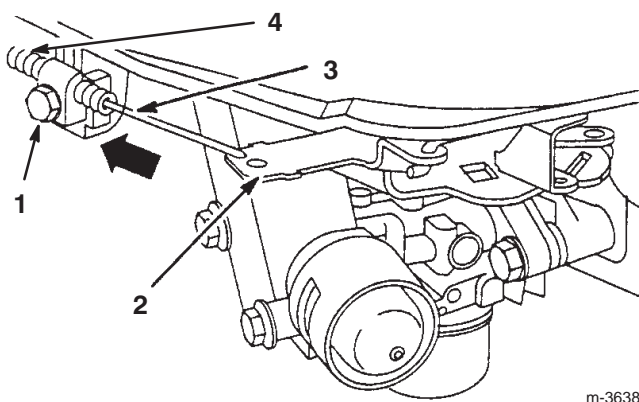

Figure 30
3. Loosen the cable clamp screw until the throttle cable slides (Fig. 30).
5. Move the governor control lever, the throttle cable, and the casing in the direction of the arrow as far as possible (Fig. 30).